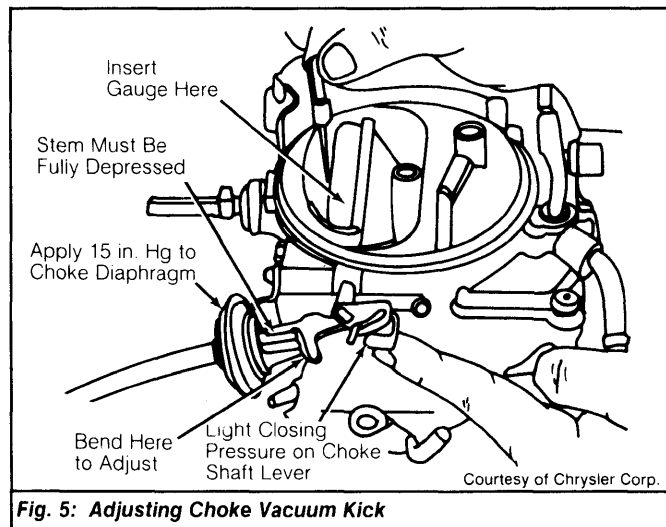

Fig. 5: Adjusting Choke Vacuum Kick
- 1) Open throttle then close throttle. Release throttle to trap fast idle cam at closed throttle position. See Fig. 5.